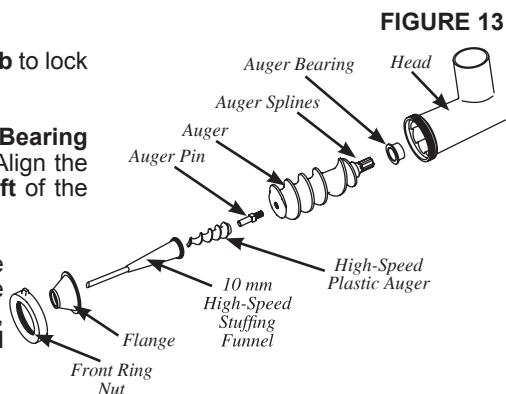

FIGURE 13
3. Insert the **Auger**, with the **Auger Bearing** attached, into the **Head** (Figure 13). Align the **Auger Splines** with the **Drive Shaft** of the **Grinder**.